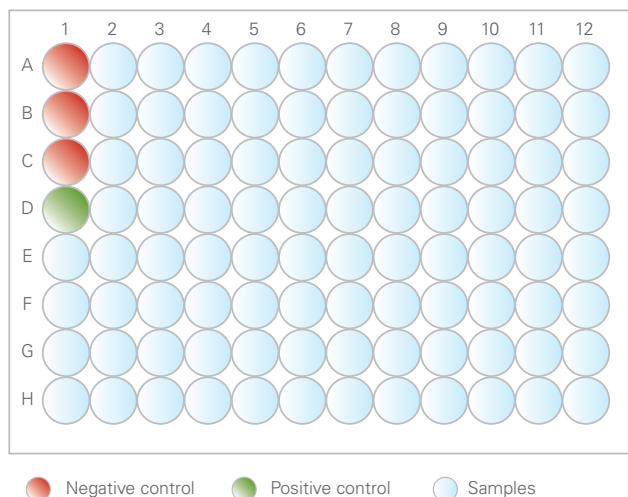

Fig 2. Plate layout.
Prior to running the Proseek Multiplex^{96×96} assay, plan the distribution of samples across the plate. It is important to place the Negative Control and Positive Control in the first four wells, according to Figure 2 for a correct analysis using the Olink Wizard by GenEx.
- ▶ Use the 96-well plate template in Figure 2 and select a location for each sample.
7. Add 1 μL of Negative Control to each well in position A1, B1 and C1 according to the plate layout in Figure 2.